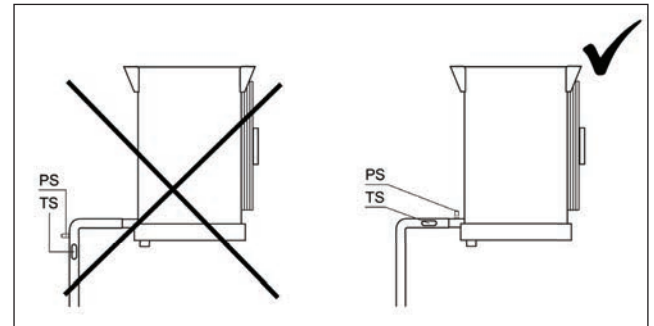

Fig. 11.8
7. Install a temperature sensor (TS) and a pressure sensor (PS). Both the sensors should be located on a horizontal suction line tube just at the outlet of the unit cooler in order to provide correct measuring of superheat (Fig. 11.8). The pressure sensor should be placed next to the temperature sensor on the upper side of the tube.